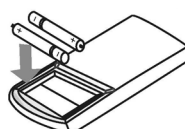

Fig.2
- Insert two brand new batteries, and position the batteries to the right electric poles (Fig.2).